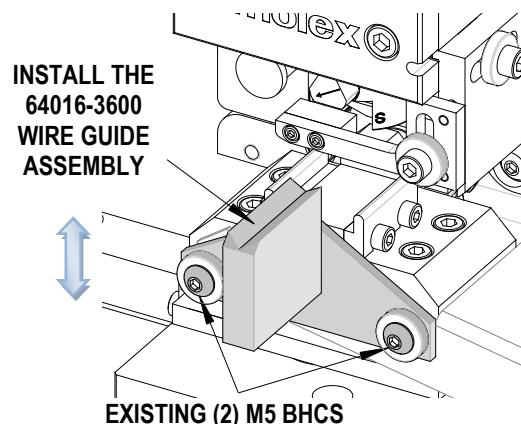

Figure 4-12
2. Install the Wire Guide Assembly (Order Number 64016-3600) using the (2) M5 BHCS on the front of the 64016-2000 tape module. Adjust the height of the Wire Guide Assembly to best suit the application. See Figure 4-12.